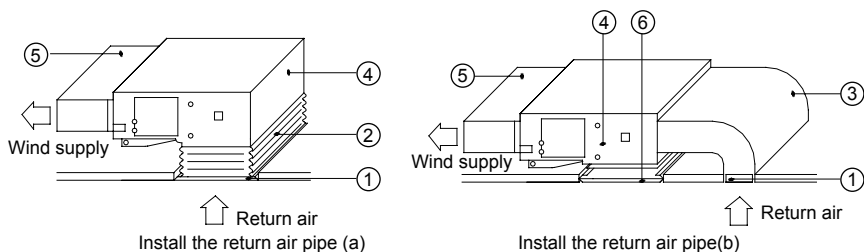

Fig.12
- (2). If the downward return air is desired, just change the place of the rectangular flange and the return air cover plate.
- (3). Connect one end of the return air duct to the return air outlet of the unit with 1/4 in. screws or what the local code requires and the other to the return air louver. For the sake of convenience to freely adjust the height, a cutting of canvas duct will be helpful, which can be reinforced and folded by # 8 iron wire.
- (4). More noise is likely to be produced in the downward return air mode than the backward return air mode, so it is suggested to install an insulated return plenum box to minimize the noise.
- (5). The installation method can be chosen with consideration of conditions of the building and maintenance, etc., as shown in Fig.12.